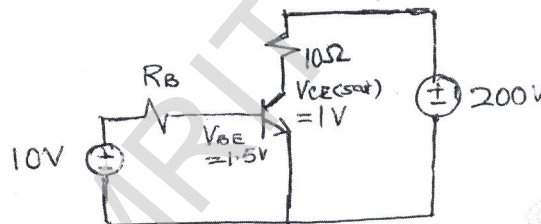

Fig.Q2(b)
- b. For the transistor switch of Fig.Q2(b), β varies between 8 and 40. Calculate: